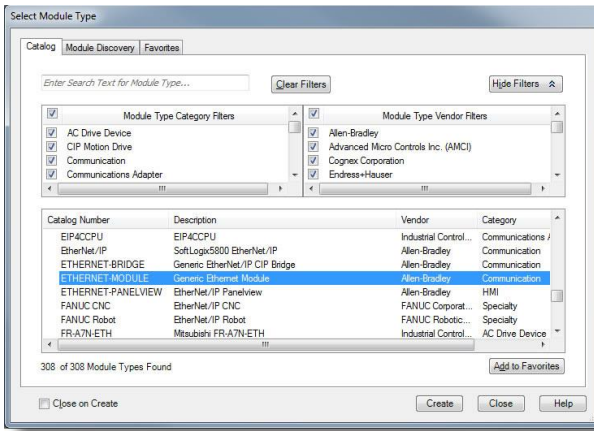

Figure 34: Adding a New Generic Ethernet Module
- 3) Choose "Generic Ethernet Module" in the Select Module dialog box and click "Create". Refer to Figure 34.